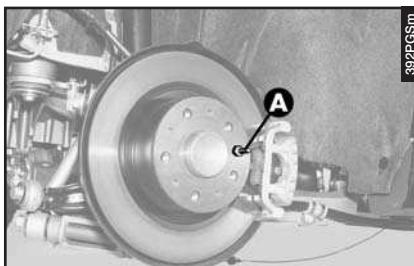
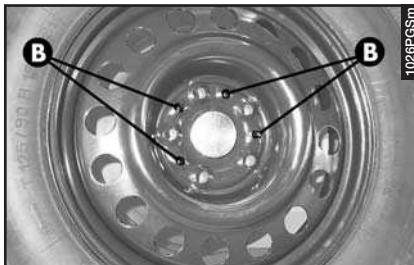

fig. 10
fig. 11
— Install the spare wheel making the hub pin (**A**-fig. 10) coincide with one of the holes (**B**-fig. 11) of the wheel.
- Install the wheel making the hub pin (**A-fig. 10**) coincide with one of the holes (**B-fig. 11**) of the wheel.